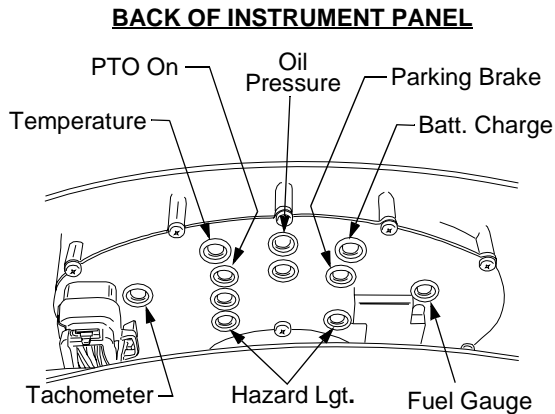

Figure 40
- Determine the position of the burned out bulb and pull the seal plug from the back of the instrument panel. See Figure 40.